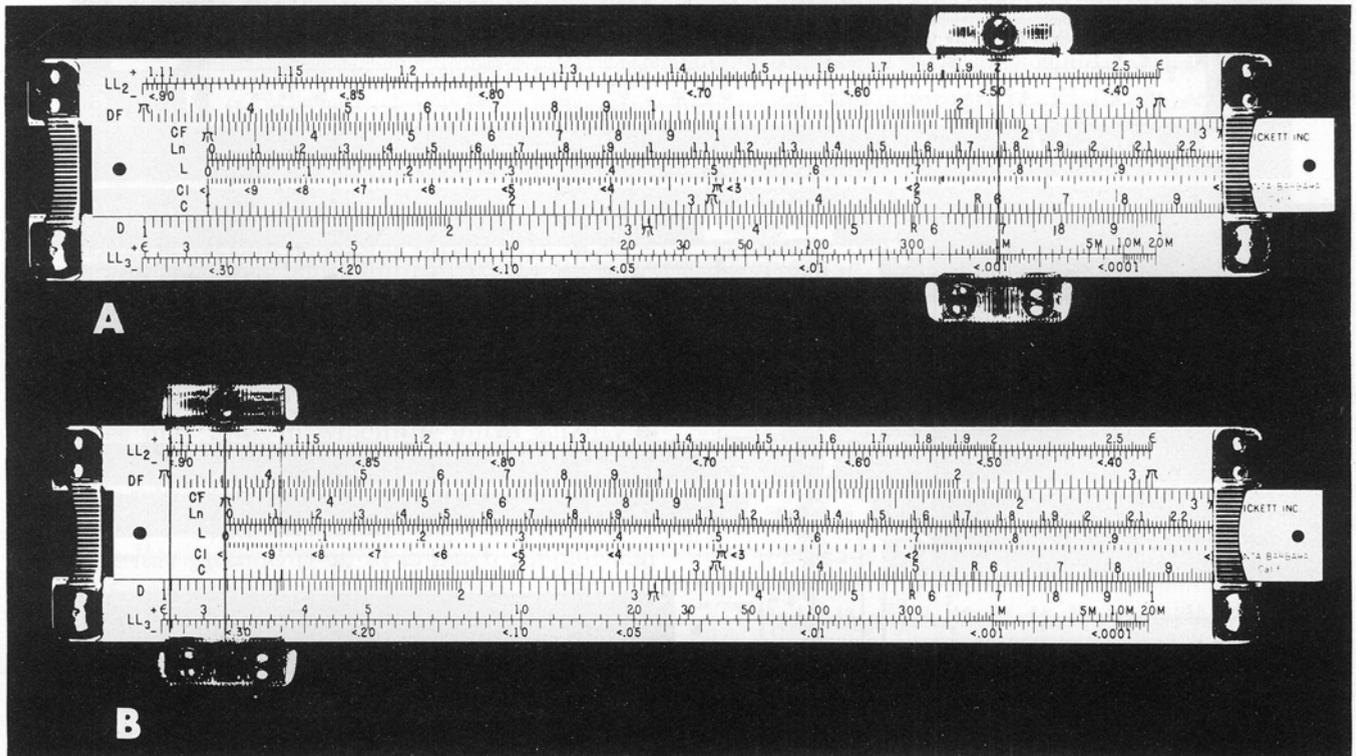

FIG. 1. Determination of decay factor.
1. Set the hairline on 0.50 on the  $LL_2$ - (or equivalent) scale of the log-log slide rule and slide the  $T_{1/2}$  on the  $C$  scale under the hairline (Fig. 1).